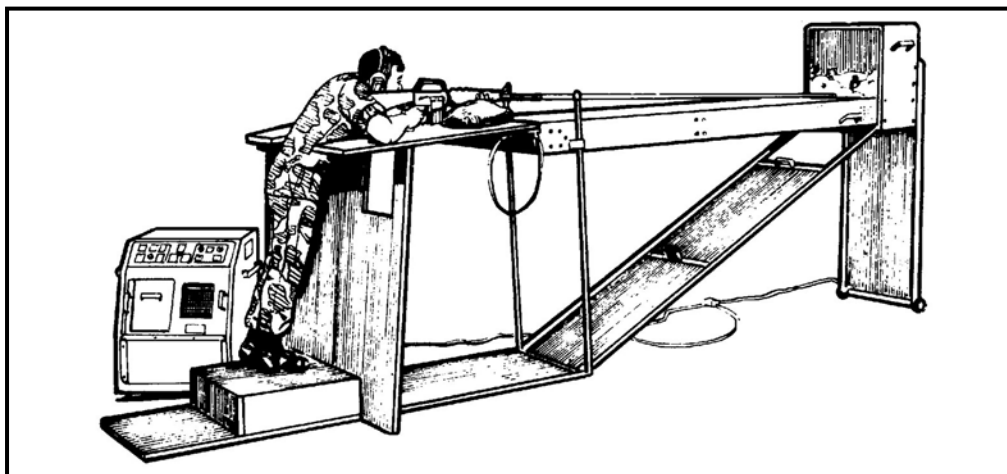

Figure A-11. Weaponeer set up in the standing supported position.
c. **Operation.** Figure A-11 shows the Weaponeer in the standing supported firing position. The rifle, with the exception of smoke and cartridge ejection, operates normally, and has the same weight and balance as the standard weapon. An infrared aiming sensor simulates round trajectory and hit point to an accuracy of better than one-minute-of-angle. The recoil rod that attaches at the muzzle end of the rifle simulates recoil. Recoil is provided in both semiautomatic and automatic modes of fire, and is adjustable from no-net force to 30 percent more than that of a live M16. Sound is provided through headphones and is adjustable from 115 to 135 decibels. Special magazines are used. One magazine simulates a continuous load; the other (used to train rapid magazine change) can be loaded with 1 to 30 simulated rounds. Selectable misfire can be used to detect gun shyness and drill immediate action. The front and rear sights are zeroed the same as standard rifles.